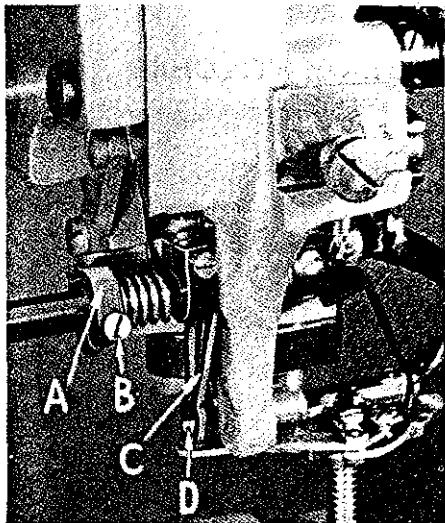
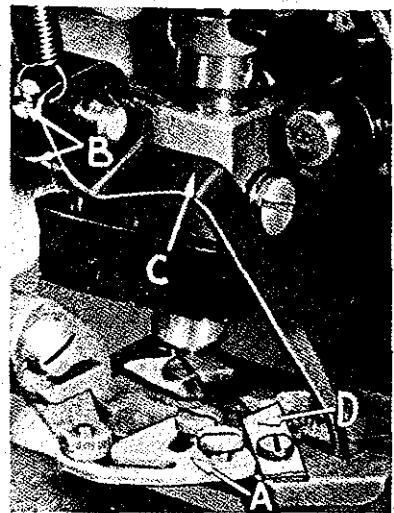
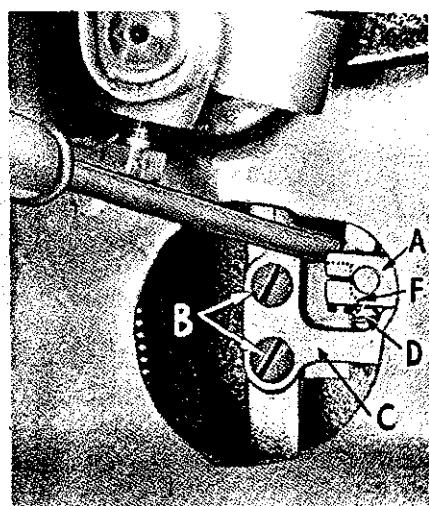

Fig. 12
Fig. 13
Fig. 14
Rotate the spring collar (A, Fig. 12), and tighten binding screw (B) when collar has been turned about 45° from zero tension.
With thread cutting finger (A, Fig. 13) at the back of its travel, set the trimmer lever (C, Fig. 12) so that it is over the center of the ball (D) from front
Check position of thread wiper crank (A, Fig. 14) through the access hole at the back of the machine. With the machine in stop position, this crank should be horizontal or slightly below to the right. If the crank is not in this position, loosen the two set screws (B, Fig. 13) in the thread wiper finger (C). Return to the back of the machine, and loosen the two screws (B, Fig. 14) in the cam plate (C), and move the crank (A) to the desired position. Now, slightly tighten one screw in the thread wiper finger (C, Fig. 13).
The screw stud in the crank (D, Fig. 14) should rest against the lower edge of the cam lobe (E) and against surface of the cam below the lobe. To do this, insert a screw driver through the opening in the cam plate, and using it as a lever, apply downward pressure to the cam while tightening the two screws (B) and maintaining the cam plate (C) in its proper
position to hold the crank (A) horizontally as previously described. Now, return to the thread wiper finger (C, Fig. 13), and check its position.
The thread cutting knife (D, Fig. 13) should be set forward in its slot enough to provide proper cutting action.